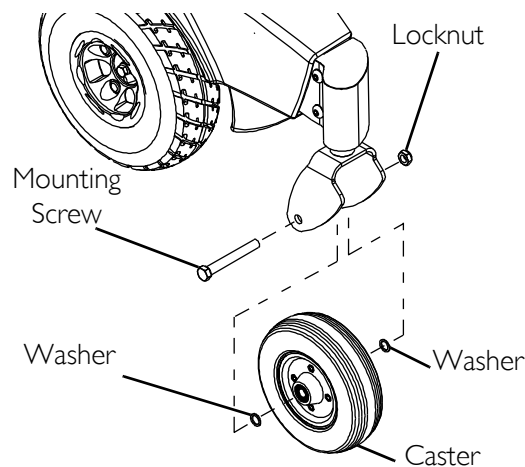

FIGURE 11.3 Replacing Front/Rear Caster Assemblies
NOTE: For this procedure, refer to FIGURE 11.3.
3. Secure new caster to fork with existing mounting screw, two washers and locknut (FIGURE 11.3). Securely tighten.